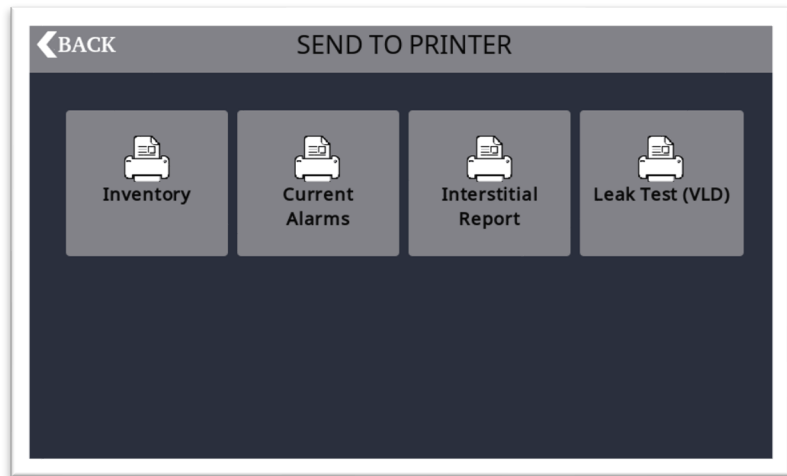

Figure 10.0
(See Figure 10.0)
***Note: The INTERSTITIAL REPORT and LEAK TEST (VLD) icons (Figure 10.0) are only available on Versions MMG400-P001AF and higher, listed at the bottom of the HELP MENU.